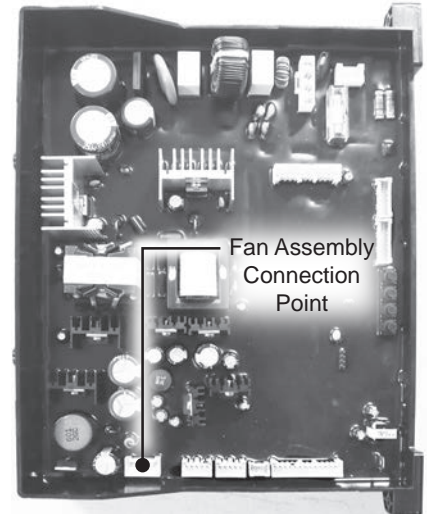
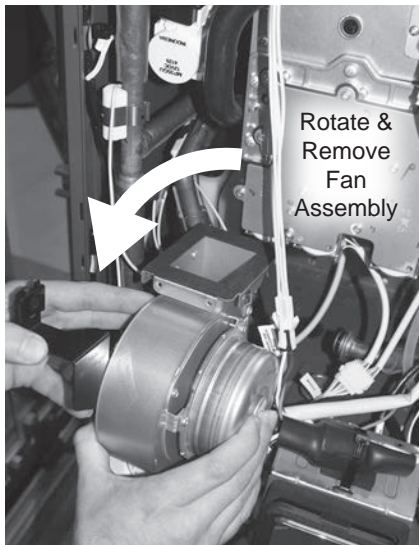

Figure 101 - Disconnecting fan assembly from PCB
Figure 104 - Rotate and remove fan assembly
- 20 Using Figure 101 as reference, disconnect the fan assembly wiring harness from PCB.
NOTICE: For easy removal, guide the fan around the left side of the inlet manifold as shown in Figure 104.
- 29 Rotate new fan assembly 90° counterclockwise so the fan outlet is facing the water heater. Insert fan assembly into water heater using the same method as outlined in **Step 23** in reverse order. See Figure 104.
- 30 Install fan assembly outlet firmly into burner. Verify all screw hole locations align properly. Secure fan assembly with the five screws previously removed in **Step 22**, starting with the bracket screw (C) to help stabilize the fan assembly.
- 31 Guide fan assembly wiring harness behind gas valve. Using Figure 101 as reference, connect fan assembly wiring harness to PCB.